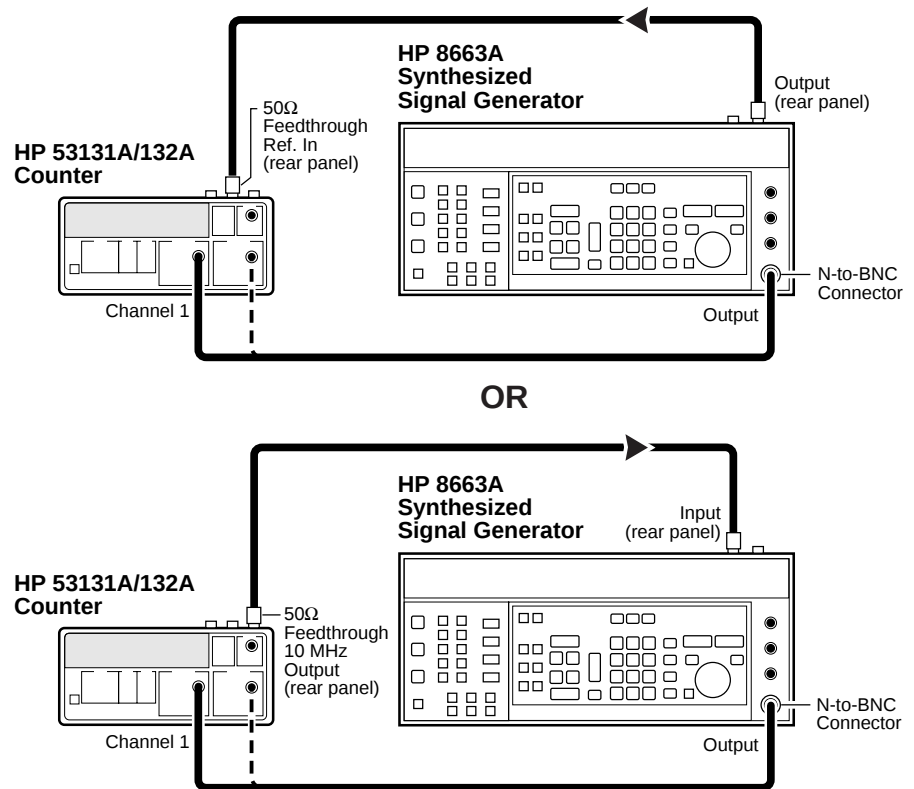

Figure 1-7. Channels 1 and 2 Frequency Sensitivity Test Setup
- 1 **Connect the timebase output of the unit with the better timebase to the timebase reference input of the other unit as shown in Figure 1-7.**
For this test, make sure you always use the unit (HP 53131A/132A or HP 8663A) that contains the better 10 MHz timebase as the output source as shown in Figure 1-7.